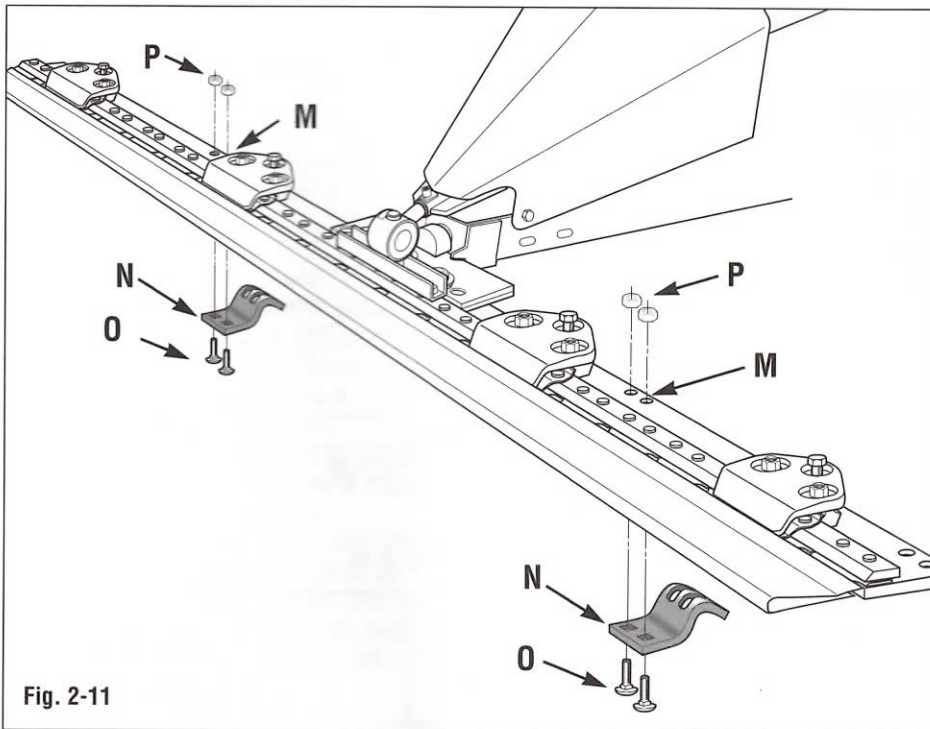

Fig. 2-11
12. At the inner set of mounting holes (M, Fig. 2-11), position the shoe holders (N) under the cutter bar. Securely attach each shoe holder with two 5/16"-18 x 1" carriage bolts (O) and 5/16"-18 locknuts (P).